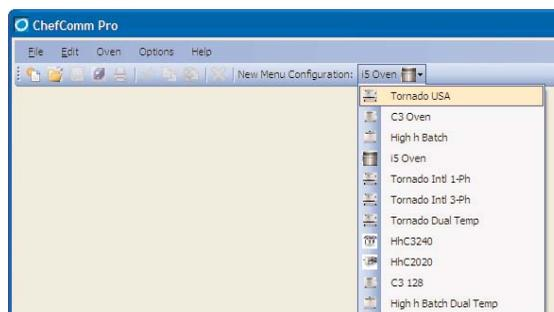

Figure 7: Locate and Select Your Oven Type
1. To view a list of preset oven types, click the oven icon adjacent to “New Menu Configuration” (Figure 7)
1. From the main ChefComm window, set the **New Menu Configuration** to match the type of menu you are working with (Figure 7, page 3).